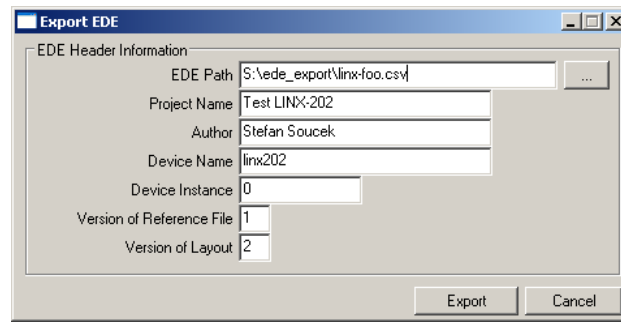

Figure 123: EDE Export Dialog
2. Right-click and select **Export EDE ...** in the context menu. This opens the EDE export dialog to enter the EDE header information as shown in Figure 123.